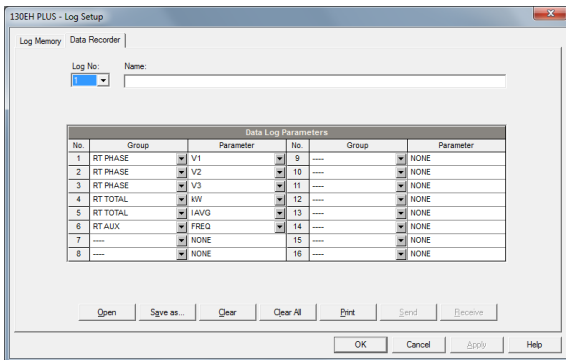

Figure 2: Data Log Configuration
2. Data log #1 was set as shown in Figure 2